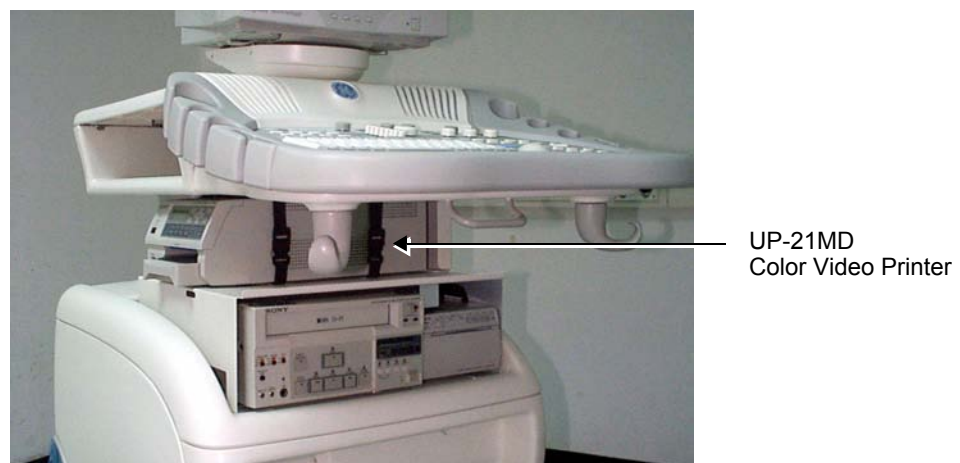

Figure 8-173 Sony UP-21MD Color Video Printer and Shelf Installed on the Vivid™ 3
- 17) Place the UP-21MD Color Video Printer on top of the shelf, as shown in Figure 8-173 below.